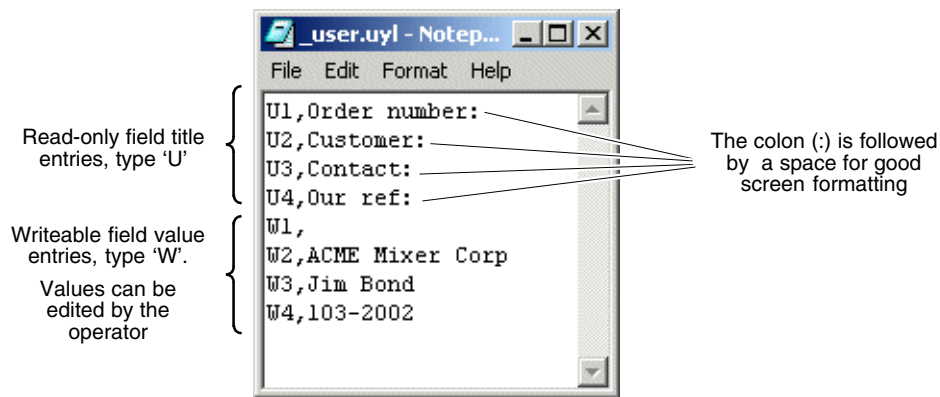

Figure 6-8 The configured ‘_user.uyl’ user dictionary file
- 1 Open a blank text editor window, e.g. in ‘Notepad’, and type in the text shown in Figure 6-8. Each entry occupies one line and has the format **<entry type><index number>,<text string>**. The text string may be blank, if no (initial) value is to be displayed.